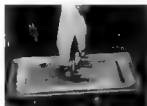

Fig. 55—Removing Battery Inspection Plate
1. Turn the right rear corner of floor mat up out of the way, turn the battery inspection plate handle counterclockwise (fig. 55) and remove inspection plate.